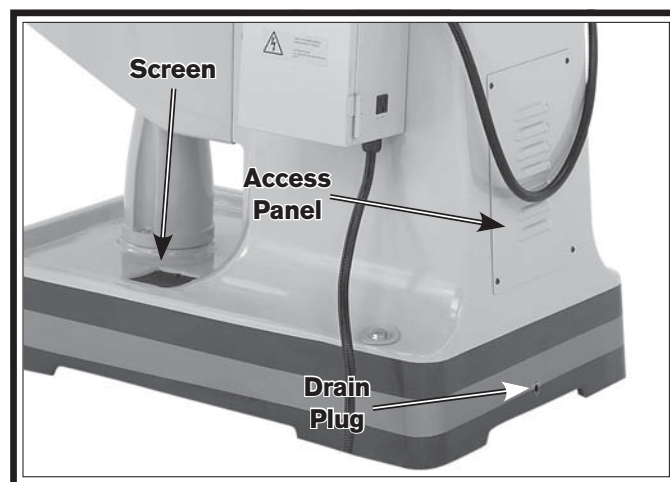

Figure 60. Coolant reservoir access panel and drain plug.
3. Remove the coolant reservoir access panel from the rear of the column (see **Figure 60**).